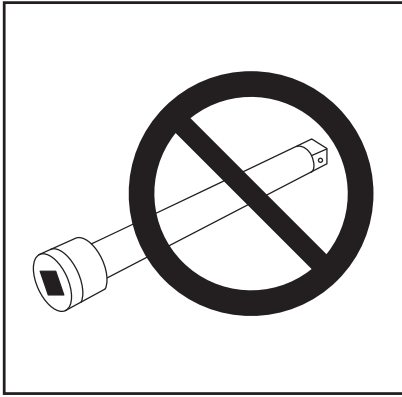

Figure 1
- Drive square extensions must not be used. These extensions will lead to serious damage to the tool output drive. See Figure 1.